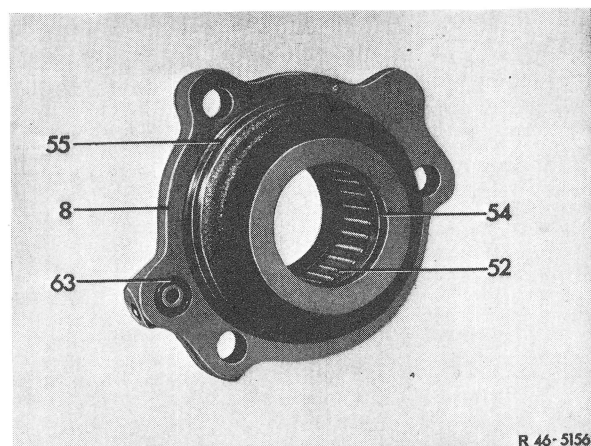

Fig. 6
- 6 Remove O-ring (54, 55 and 63) from housing cover (Fig. 6).